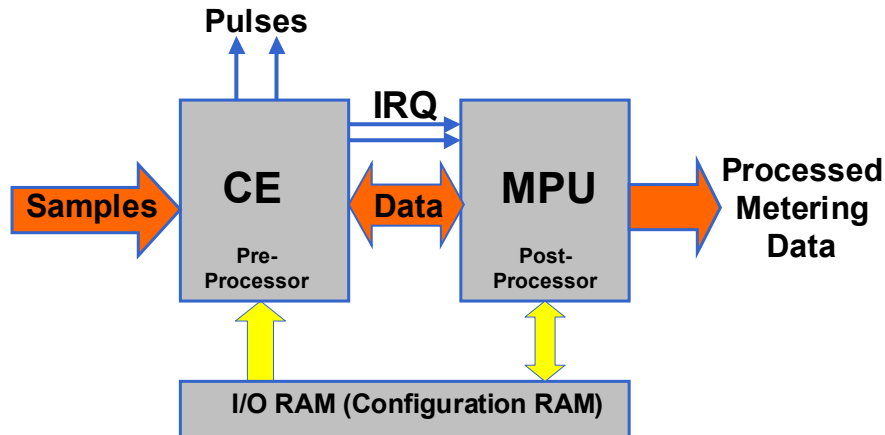

Figure 17: MPU/CE Data Flow
The data flow between CE and MPU is shown in Figure 17. In a typical application, the 32-bit compute engine (CE) sequentially processes the samples from the voltage inputs on pins IA, VA, and IB, performing calculations to measure active power (Wh), reactive power (VARh), A²h, and V²h for four-quadrant metering. These measurements are then accessed by the MPU, processed further and output using the peripheral devices available to the MPU.